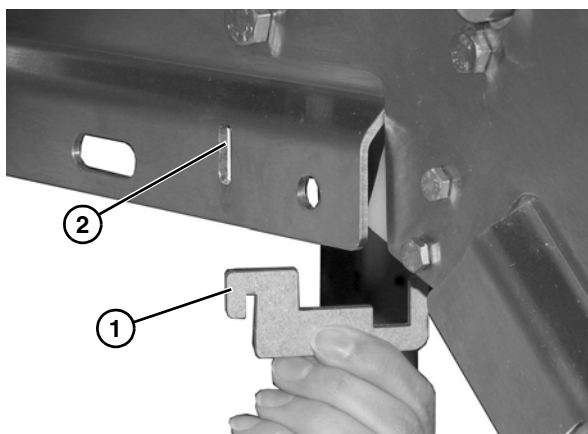

Figure 22
1. Install belt return mounting bracket (**Figure 22, item 1**) into slotted frame hole (**Figure 22, item 2**).